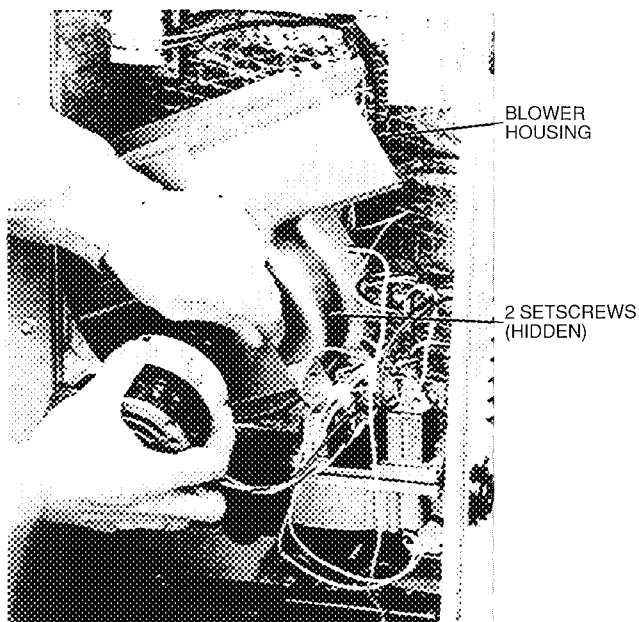

Fig. 26 — Removal of Motor and Blower Wheel
4. To remove blower, remove 2 setscrews. (See Fig. 26.)